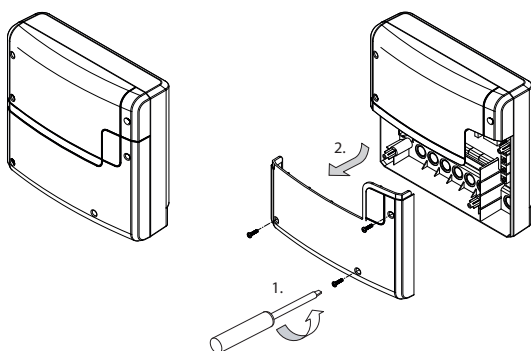

Fig. 1
1. Take the lower part of the front cover off the relay box. For this undo 3 fixation screws, then pull the cover slightly downwards and take it off. See the fig. 1 for details.